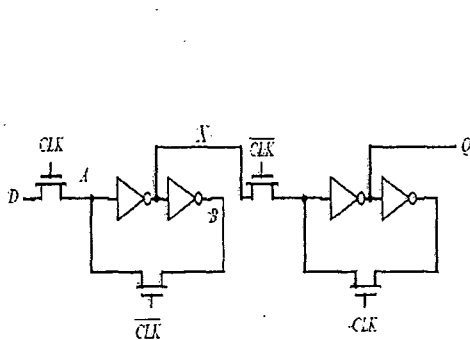

Figure 7
- 13.(b) Consider an edge triggered register circuit given in Fig.7.
- State the type of edge triggered register with justification. (4)
- Determine the setup time, hold time and CLK to Q delay of this register (6)
- Give the issues related to CLK and \overline{CLK} overlap and give alternate circuit technique to minimize this overlap (6)
- 14.(a)(i) Derive the carry generation circuit for a 4-bit carry look ahead adder. (8)
- (ii) Derive the critical path delay in a carry bypass adder and show that the critical path delay can be minimized using linear carry select adder. (8)